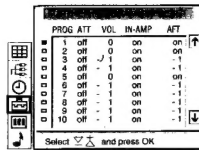

Fig. 18
- Select »Further Programme Preset« with Δ + or ∇ - and press OK. The FURTHER PROGRAMME PRESET menu appears (See Fig. 18).